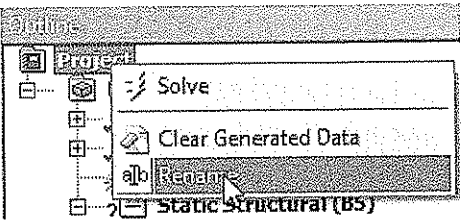

Figure 9-41 Choosing the *Rename* option from the shortcut menu
- 6. Right-click on the **Project** node in the Tree Outline and then choose the **Rename** option from the shortcut menu displayed, refer to Figure 9-41; the **Project** node is highlighted in the Tree Outline.